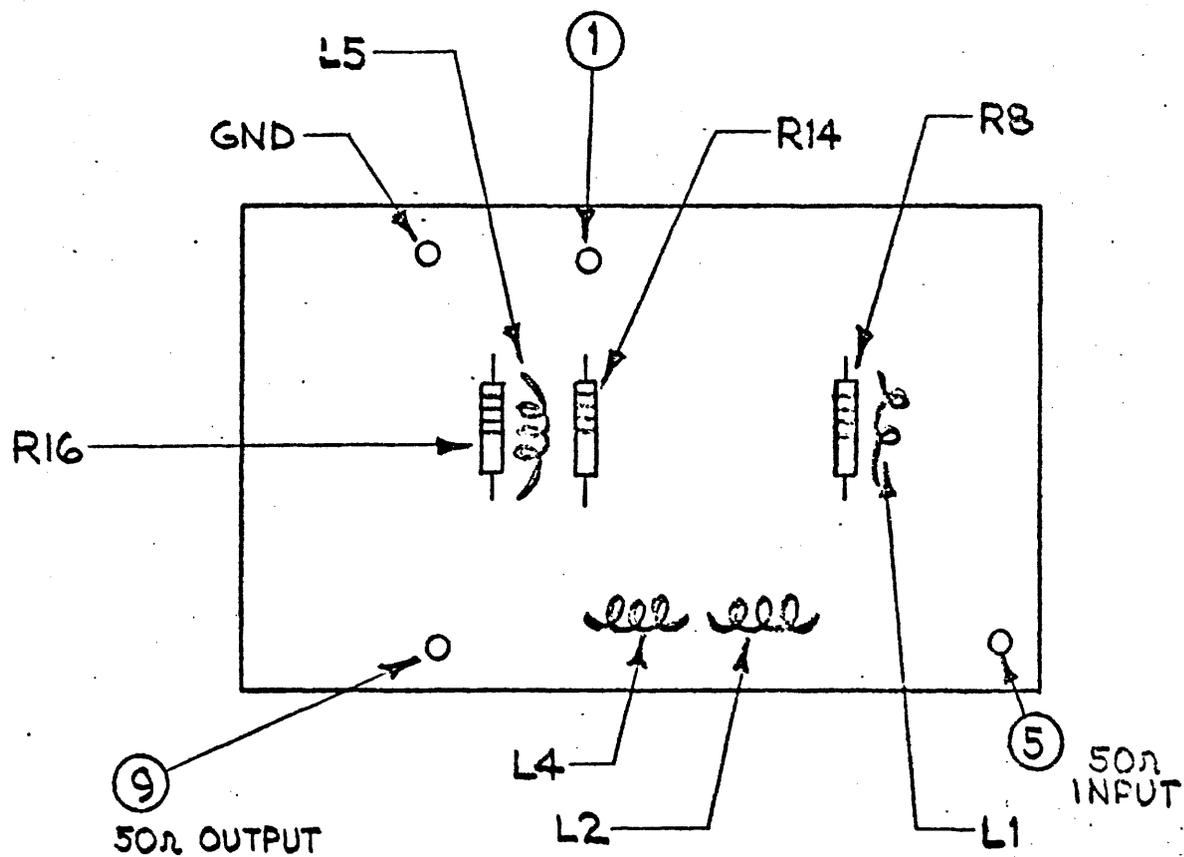

FIGURE 4-56. BROADBAND AMPLIFIER ASSEMBLY, A1A4 (RFM-10B)
- a) There is an additional figure, Figure 4-56, BROADBAND AMPLIFIER ASSEMBLY, A1A2 (RFM-10B).